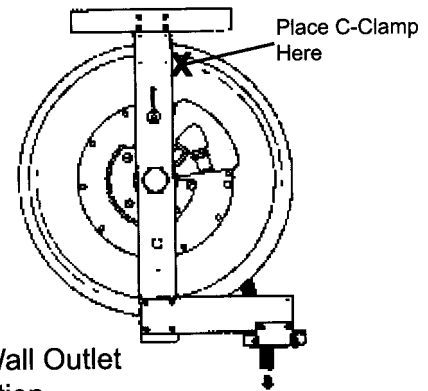

Figure 8
1. Pull the hose out fully and engage the stop pawl. Place C-clamp on spool to prevent possible bodily injury (see figure 8).